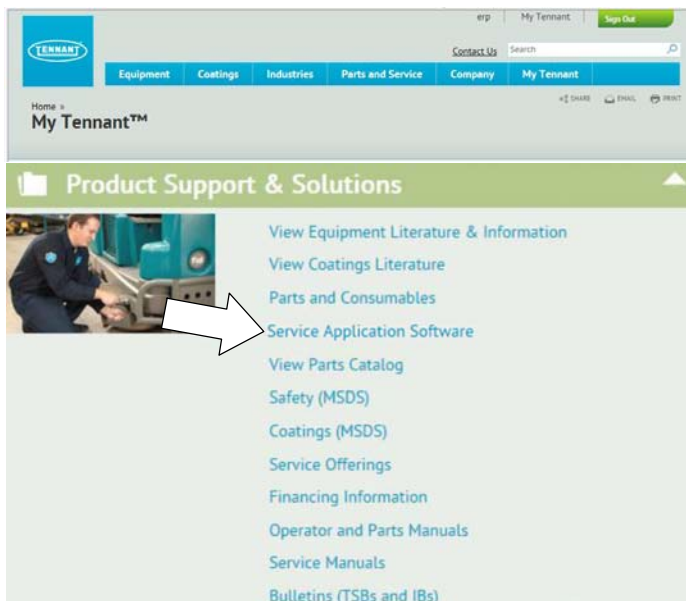

Fig. 18
3. Once logged on to the “My Tennant™” website, click on the “**Service Application Software**” link under the “Product Support & Solution” section as shown below (Figure 18).